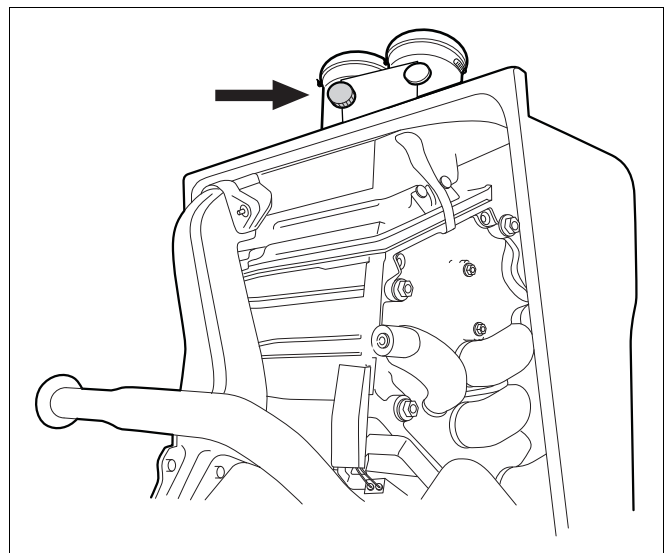

Fig. 38 Flue gas sampling point
- Measure the carbon monoxide content on the flue gas sampling point (fig. 38).